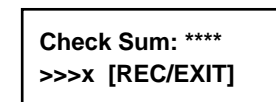

fig3.
- Play the song. Fig.3 appears on the JP-8080 display.
- 演奏を開始します。JP-8080のディスプレイに、Fig.3が表示されます。
- (2) Connect MIDI-IN and MIDI-OUT with a MIDI cable. Is "OK" shown on the LCD.
- (3) Disconnect MIDI cable connected to MIDI-IN. [fig.3] is shown on the LCD
[fig.3]